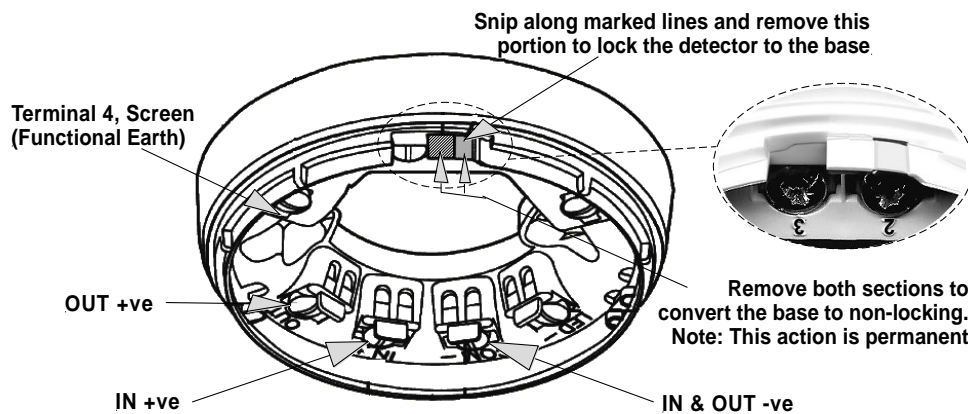

Figure 2: Orbis Base Locking Mechanism
1. Activate the locking mechanism if the detector is to be locked into the base. To do this, remove the small portion of the base shown in Figure 2 with side cutters or a similar tool.